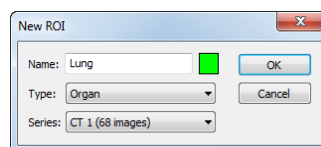

Figure 208 – New ROI dialog
- The **New ROI** dialog for defining the main properties of the new ROI is then displayed (see Figure 208).